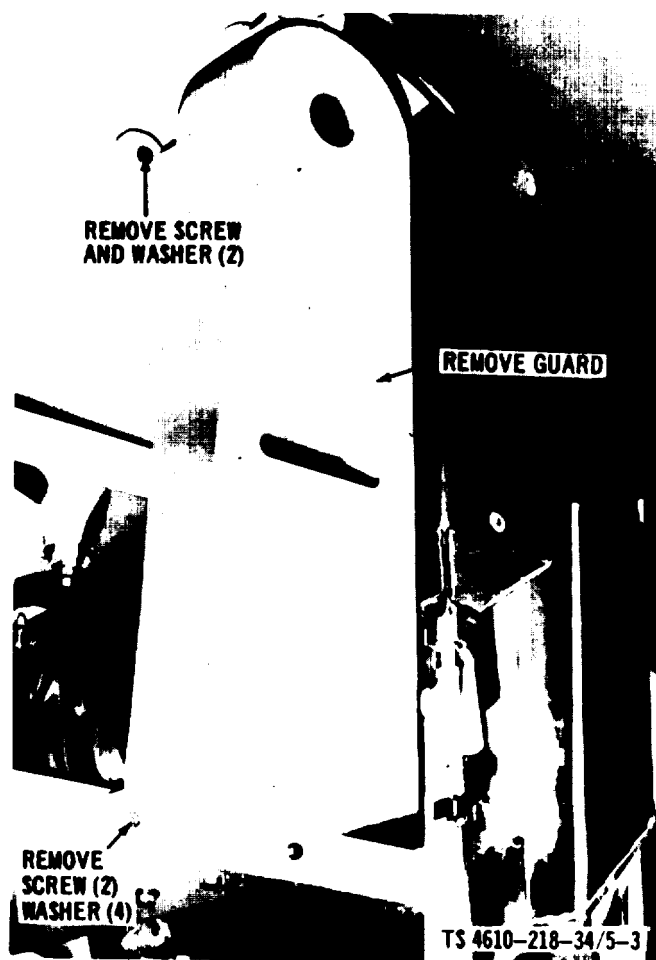
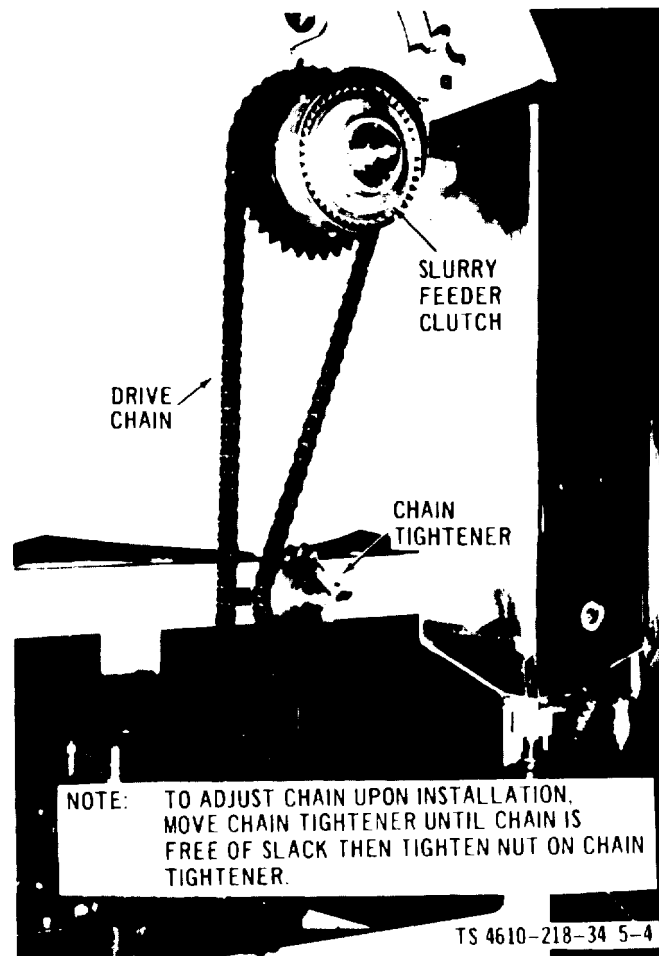

Figure 5-3. Chain Guard, Removal and Installation
Figure 5-4. Chemical Slurry Feeder Chain and Chain Tightener, Removal and Installation
(3) Refer to figure 5-3 and remove the chain guard, remove the chain and chain tightener as illustrated in figure 5-4.
(5) Refer to figure 5-4 and install the chain tightener and chain, install the chain guard as illustrated in figure 5-3.